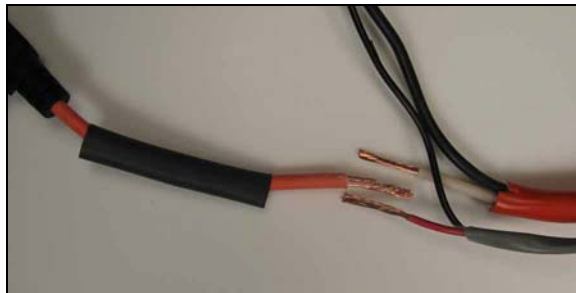

Figure 13: Fuse Holder and Connecting Wires Prepared for Soldering
- Cut the white lead of the extension cord and the red wire of the 8' 16/2 cable to 3 cm in length and stripe off 1.5 cm of insulation. Also stripe 1.5 cm of insulation off the fuse holder wire (Figure 13).
- Slip on a piece of heat-shrink tubing onto the fuse holder lead before twisting and soldering the connection (Figure 13).